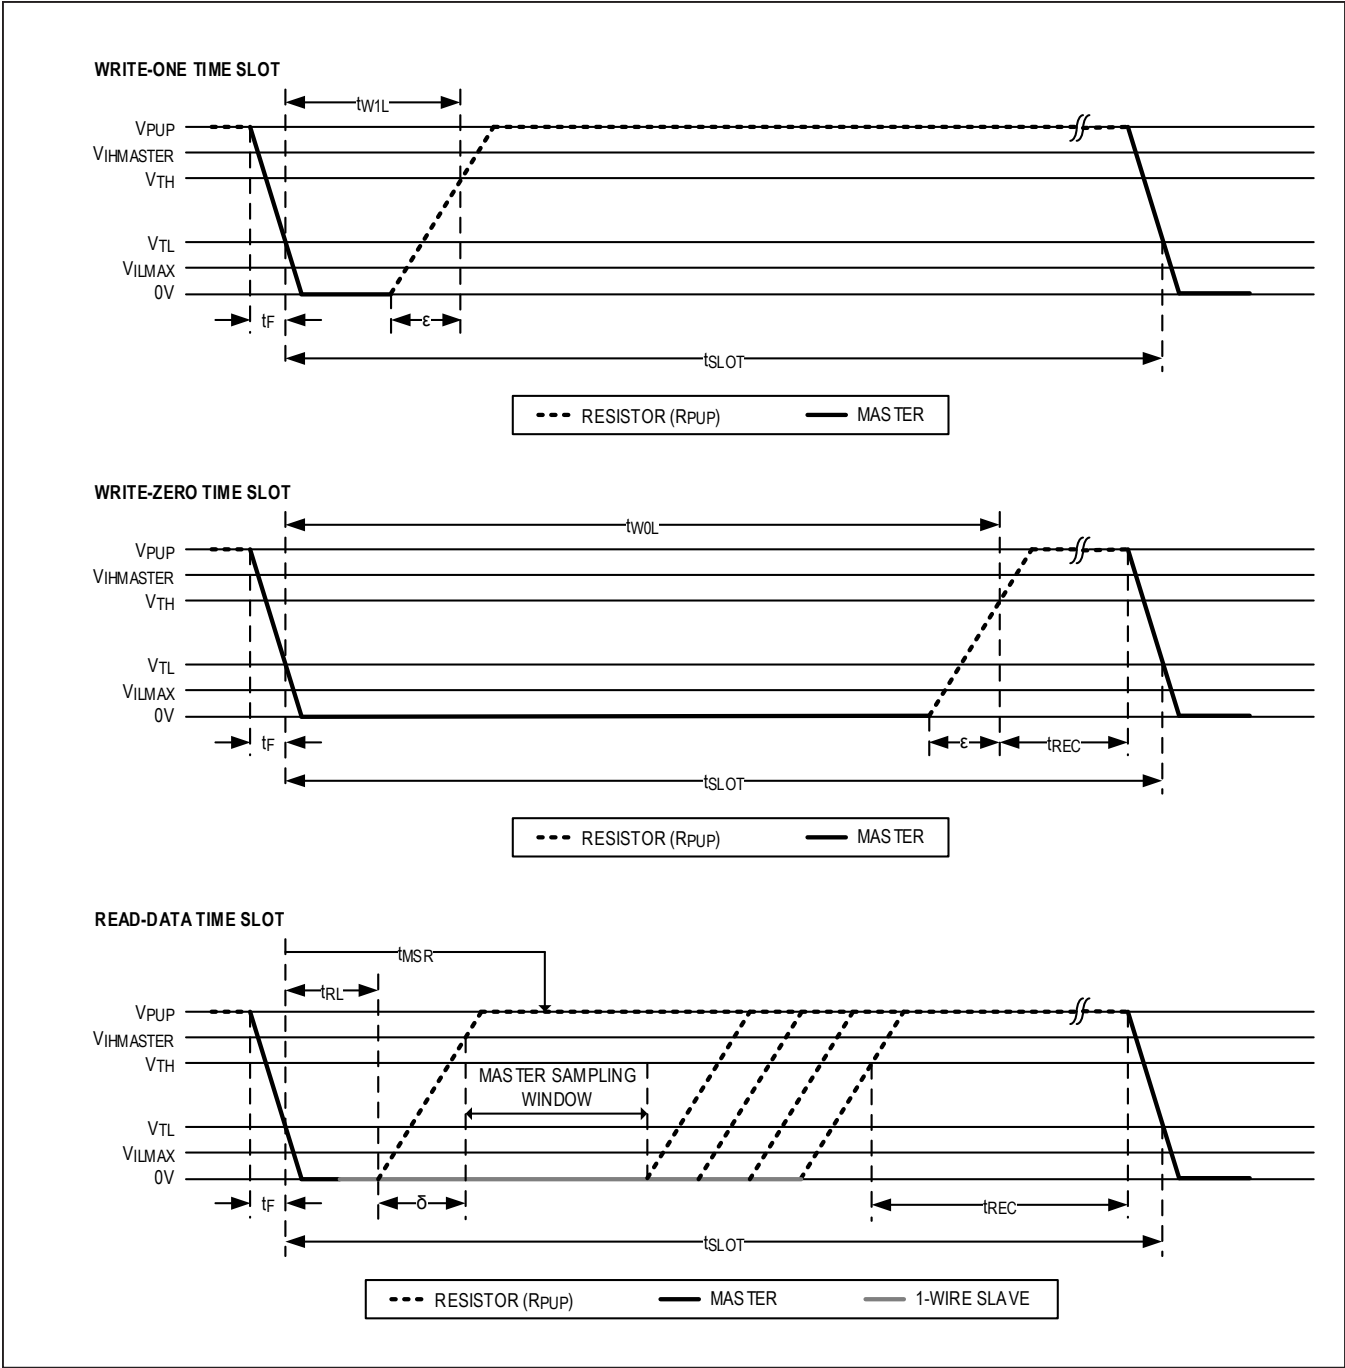

Figure 4. Read/Write Timing Diagrams
- Note 13:** System requirement. ϵ in Figure 4 represents the time required for the pullup circuitry to pull the voltage on IO up from V_{IL} to V_{TH} . The actual maximum duration for the master to pull the line low is $t_{W1LMAX} + t_F - \epsilon$ and $t_{W0LMAX} + t_F - \epsilon$, respectively.
- Note 14:** System requirement. δ in Figure 4 represents the time required for the pullup circuitry to pull the voltage on IO up from V_{IL} to the input-high threshold of the bus master. The actual maximum duration for the master to pull the line low is $t_{RLMAX} + t_F$.
Data communication with the DS28E16 takes place in time slots that carry a single bit each. Write time slots transport data from bus master to slave. Read time slots transfer data from slave to master. Figure 4 illustrates the definitions of the write and read time slots.